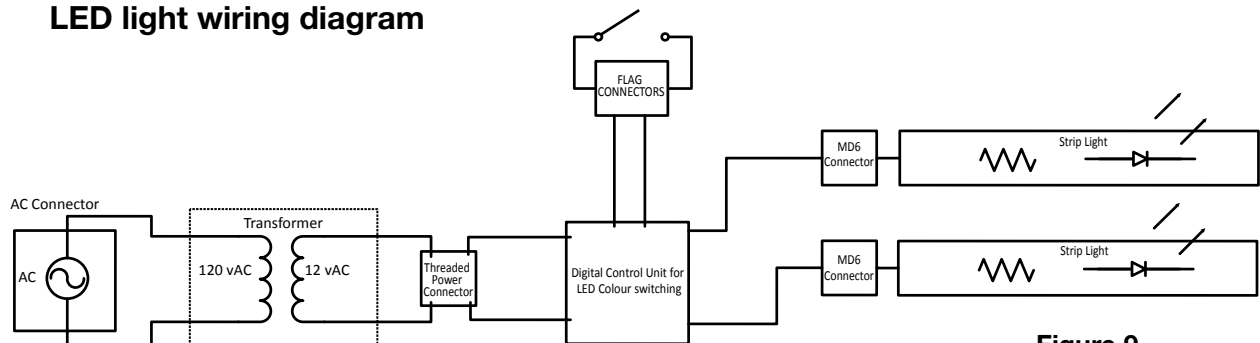

Figure 9
- Move the ON/OFF/REMOTE selector switch to the REMOTE position. Control module will beep once when ready (**Figure 9**).
- Using a small item (such as a paper clip) press and release the "LEARN" button located near the selector switch (**Figure 9**).
1. The control module has an ON/OFF/REMOTE selector switch that must be set (**see Figure 9**).